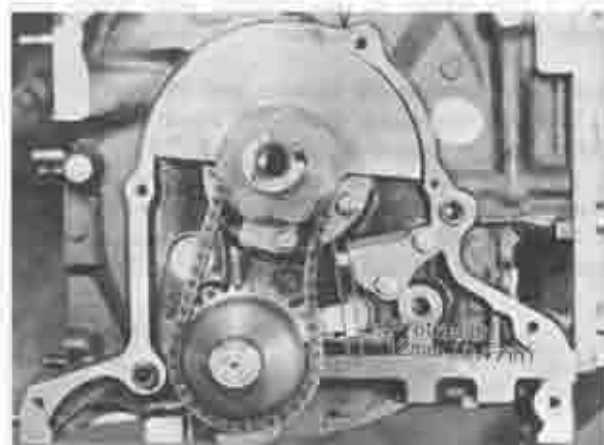

Fig. 1-85 Checking chain adjuster protrusion
4. Place the chain adjuster in position and tighten the attaching nuts, then check the amount of protrusion of the chain adjuster as shown in Fig.1-85. If the protrusion exceeds 12 mm (0.47 in), replace the adjuster or chain.